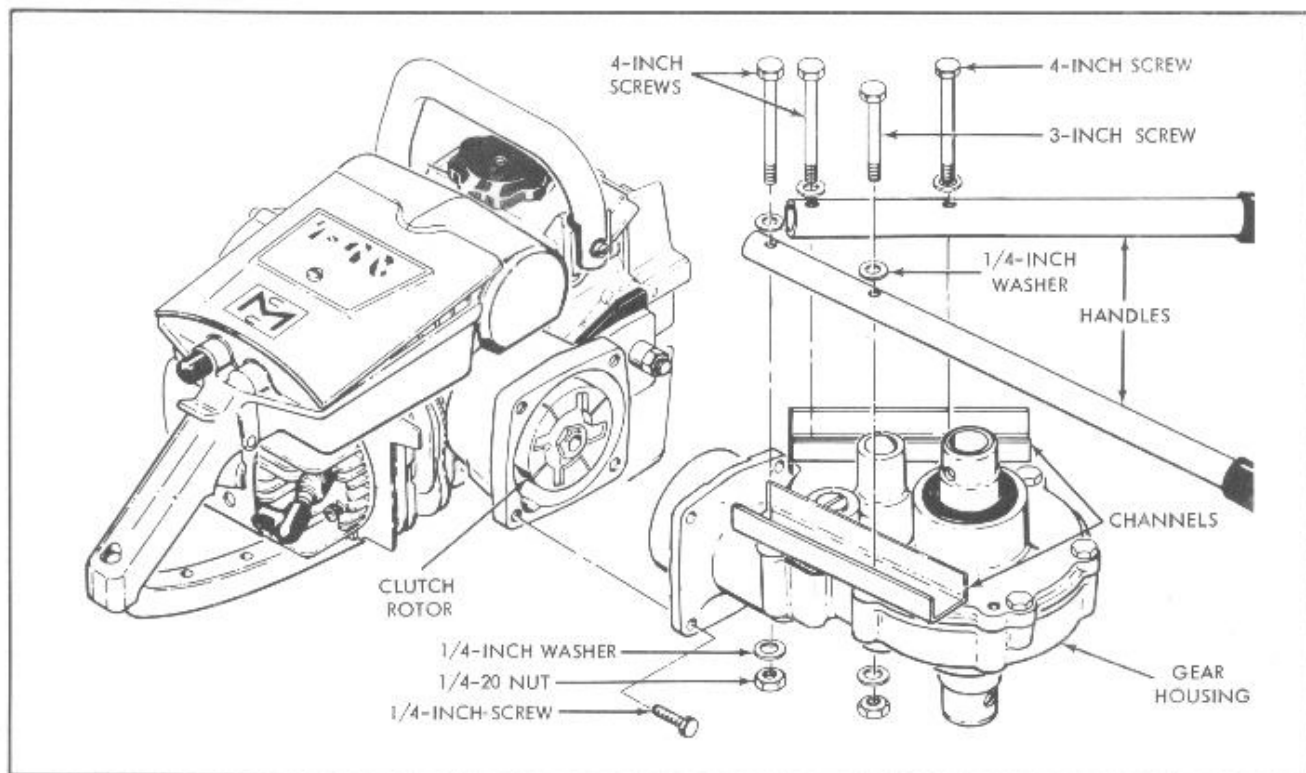

Figure 6. Install Gear Housing and Handles
5. Mount the gear housing on the adapter with the four 1-inch long screws (figure 6). Make sure the screws are tight.
6. Remove the channels from the gear housing cover. Turn them right side up and mount the handles in the channels on the cover using the screws, nuts and washers fastening the channels to the cover (figure 6).